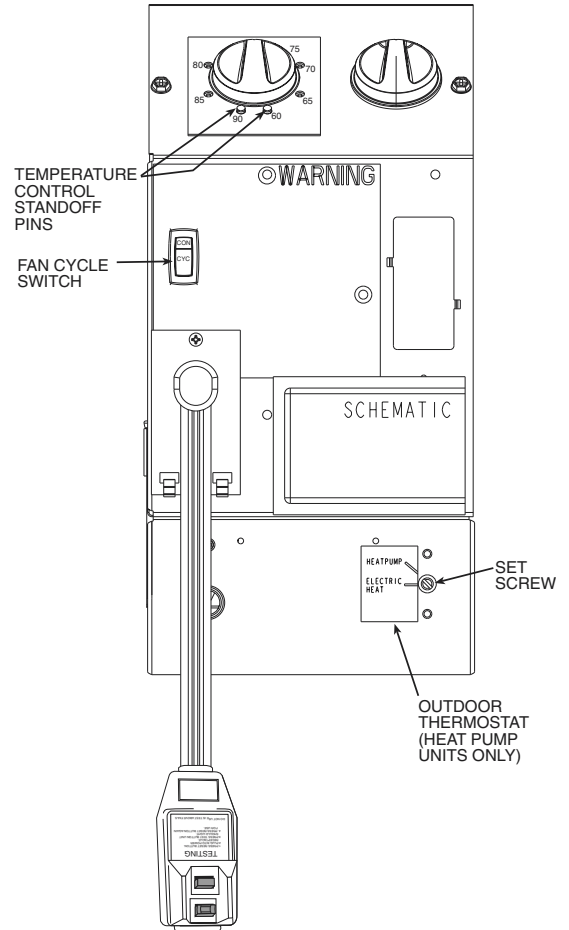

FIGURE 18 — OPERATING CONTROLS
■ **SETTING TEMPERATURE LIMITS** — Setting temperature limits on the unit provides the user a restricted range of temperature control. See Figure 18.
The following controls are located on the front of the control box door, under front panel. To obtain access to operating controls, remove the unit front panel as shown on page 2. See Figure 18.
■ **OUTDOOR THERMOSTAT (52CQ and 52PQ HEAT PUMP UNITS ONLY)** — If the setscrew is left at the factory setting (in the heat pump position), the unit will operate in the reverse cycle heating mode. See Figure 18. When the temperature of the outdoor coil reaches 20 F (approximately 35 F outdoor air temperature), the compressor will shut down as unit is no longer capable of adequate heating in heat pump mode. The electric heater then becomes the primary heating source. The electric heater remains on until the temperature of the outdoor coil reaches 40 F; then the electric heater is shut off and the compressor is energized. Once the compressor is energized, the heat pump again becomes the primary heating source.
To set unit to operate in electric heat mode only, turn the setscrew to the electric heat position. See Figure 18.